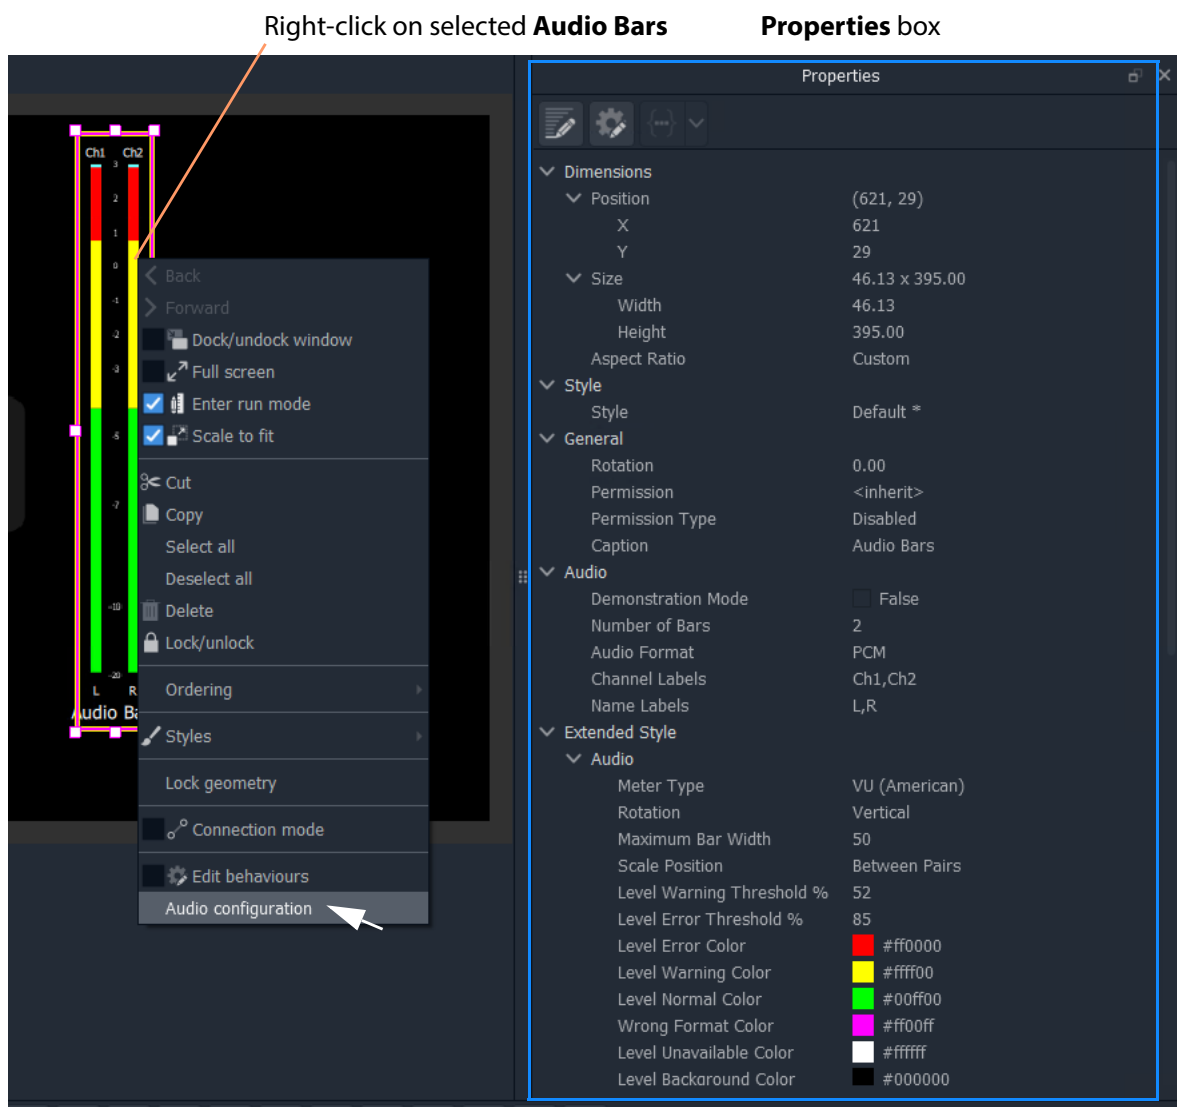

Fig. 18-2: Right-Click on Audio Bars Widget
The **Audio Bars** widget may be set up by selecting the widget in the **Tile Editor** and modifying properties in the **Properties** box. See Figure 18-2.
- 2 Right-click on the widget and select 'Audio Configuration' in the pop-up menu. (See Figure 18-2.)